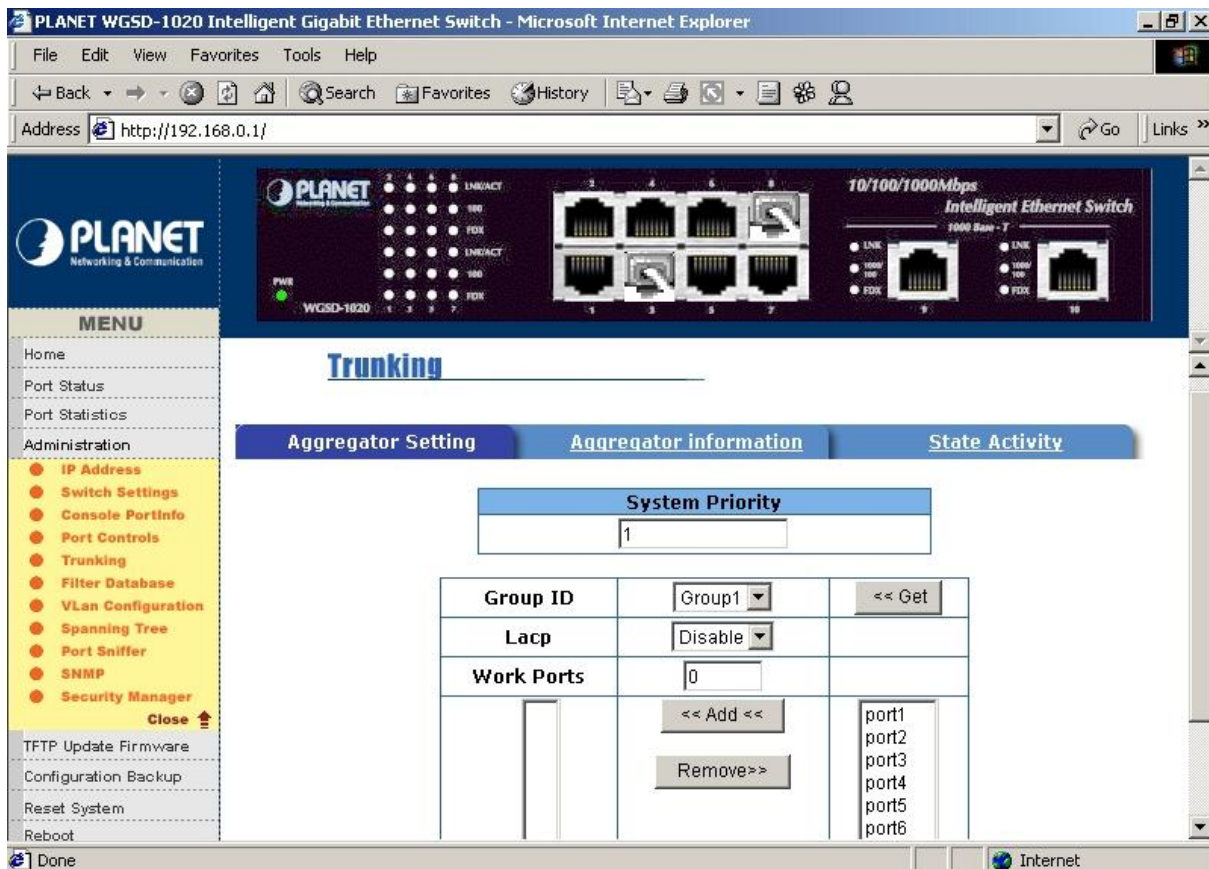

Figure 5-15 WGSD-1020 Trunking Web Page screen
1. From the main menu , click administrator →VLAN configuration. The screen in Figure 5-15 appears.